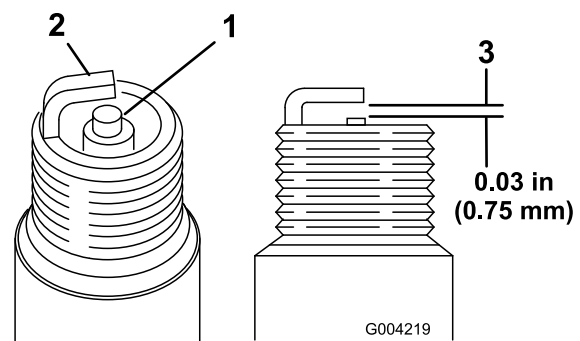

Figure 16
1. Look at the center of both spark plugs (Figure 16). If you see light brown or gray on the insulator, the engine is operating properly. A black coating on the insulator usually means the air cleaner is dirty.
2. Check the gap between the center and side electrodes (Figure 16).
3. Bend the side electrode (Figure 16) if the gap is not correct.